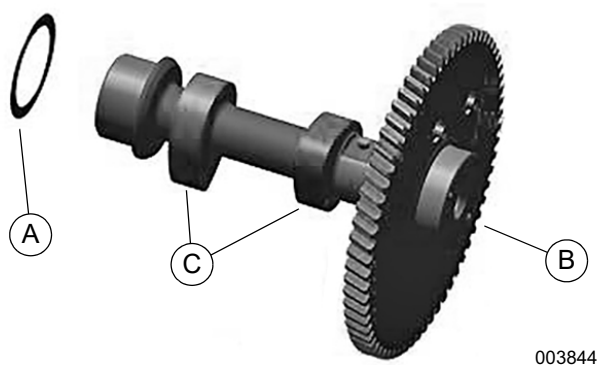

Figure 14-21. Install Bevel Washer
1. See Figure 14-21. Apply assembly lube to both sides of camshaft bevel washer (A). Install bevel washer on camshaft assembly (B).